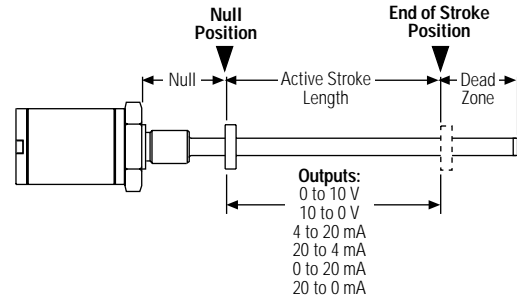

Figure 2
3. Move the magnet to the **null** position (see Fig. 2).
(Refer to Figure 2 to determine zero and span set point location)